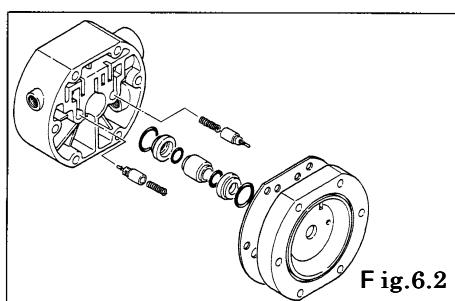

Fig.6.2
- Remove the body B. [Fig.6.2]
- Draw out the pilot valve assembly. [Fig.6.2]
- Remove the O-ring, bushing and guide. [Fig.6.2]